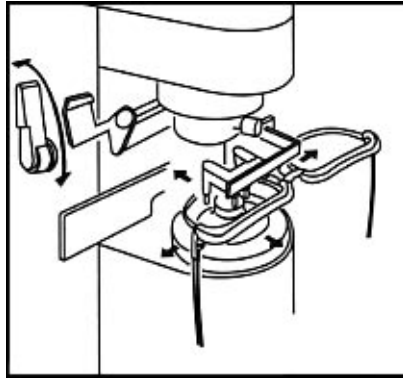

Fig. 9
- (2) Lift upwards the lens pressing mechanism, then lower it to press lens; when measurement is over, lift upwards the lens pressing mechanism again to the top end so that lens pressing mechanism is hung tightly and automatically.
- (3) When lens on the frame is measured, lower part of frame (i.e. two lens rings) should contact lens pushing board: turn lens pushing hand lever to push out the lens pushing board (Fig.9).